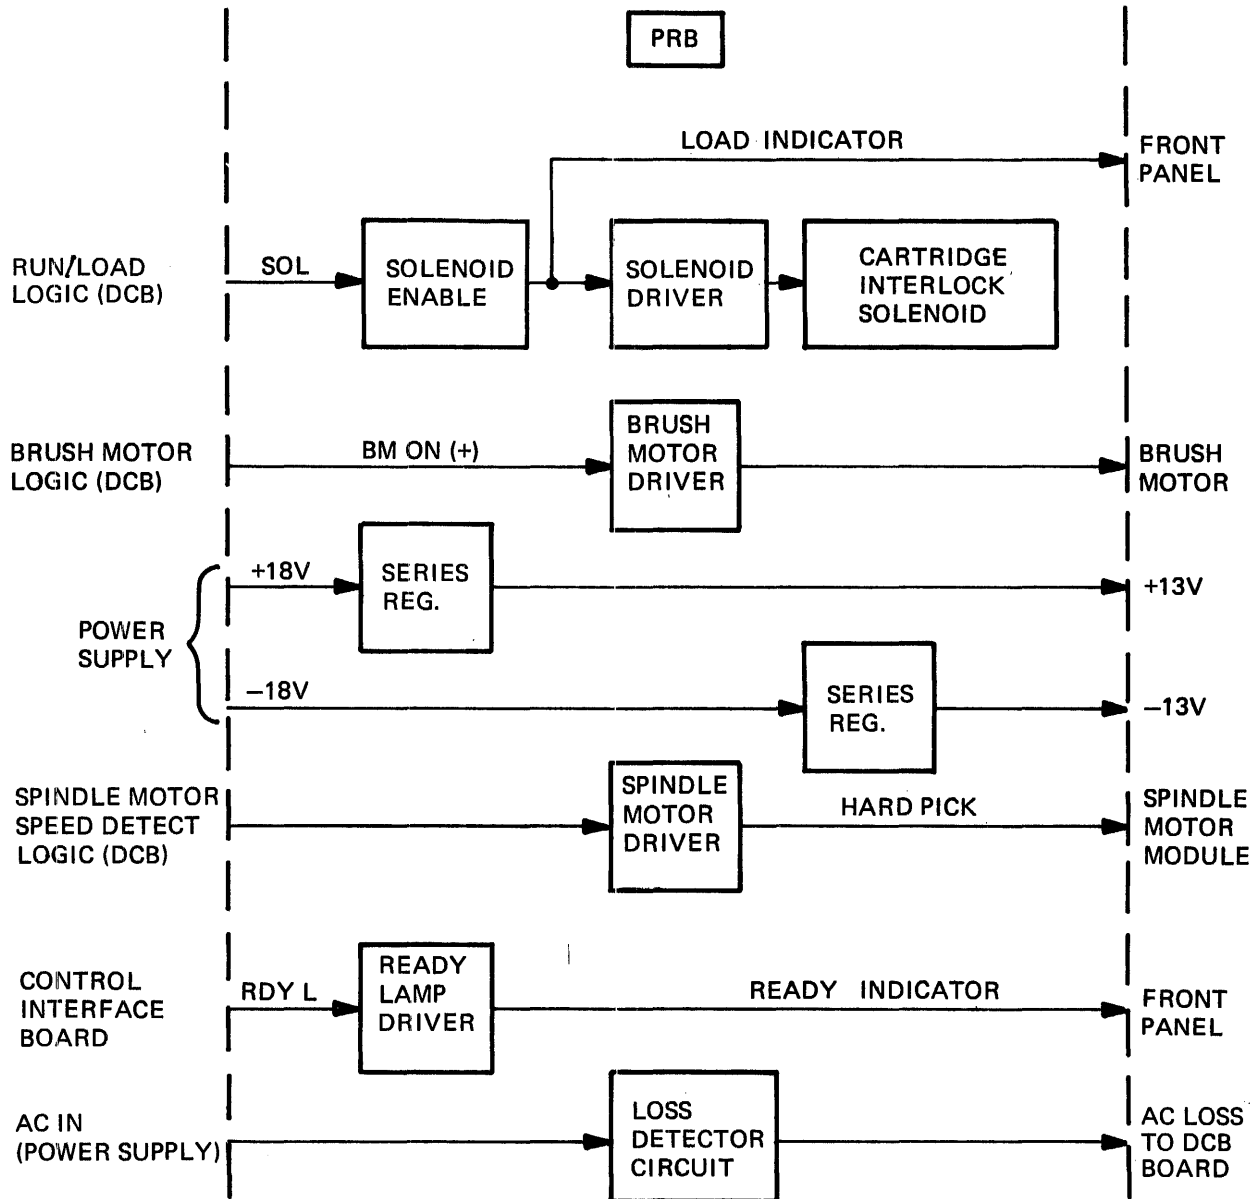

Figure 4-17. Block Diagram of Power Regulator Board
4.5.4.1 Board Functions. A block diagram of the PRB is shown in Figure 4-17. The main functions performed by the logic circuits on this circuit board are: